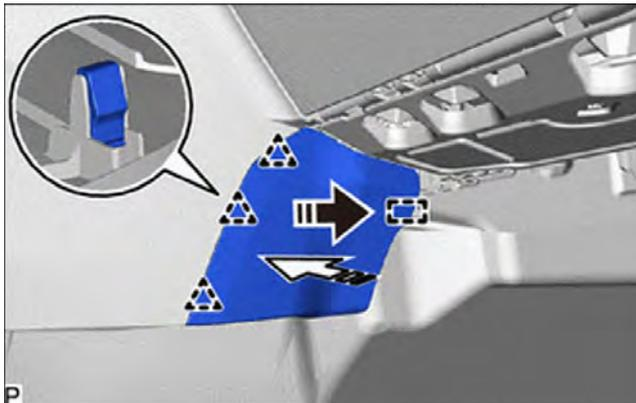

Figure 65
- (a) Engage the guide and 3 clips to install the front No. 2 console box insert, as shown in Figure 65.